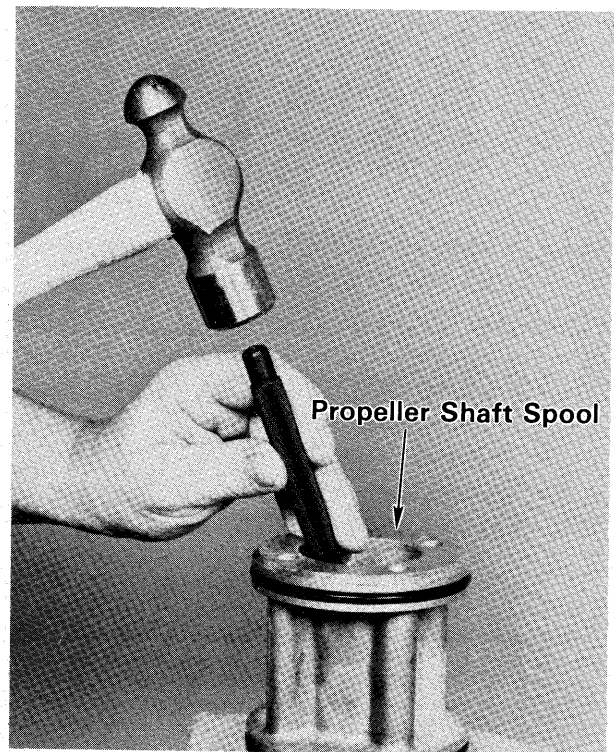

Figure 14—Removing Propeller Shaft Seal
- G. Remove propeller shaft seal from spool using spring pin punch (Special Tool T8919) as shown in figure 14.